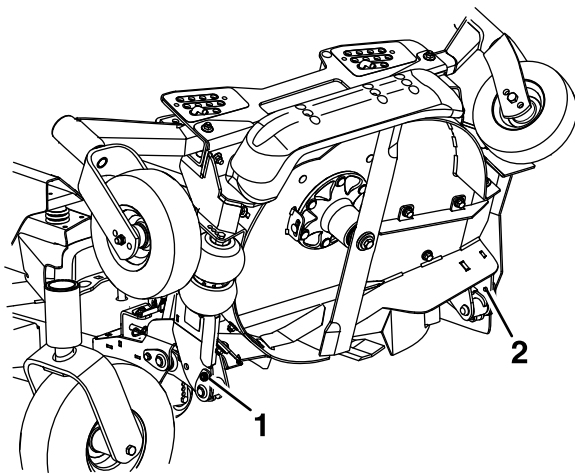
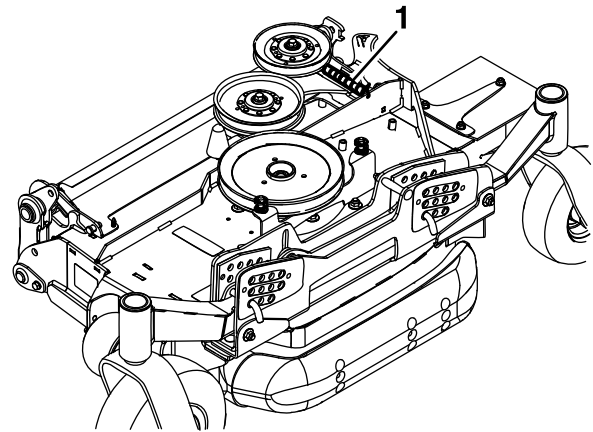

Figure 82
**Figure 85**
7. Loosen the bolts that secure the upper pivot pins to the deck but **do not** remove the bolts (Figure 82).
14. Remove the flanged bushings from the upper pivot points and clean the bore (Figure 85).
18. Remove and retain the lower pivot point bolts (Figure 82 and Figure 85).